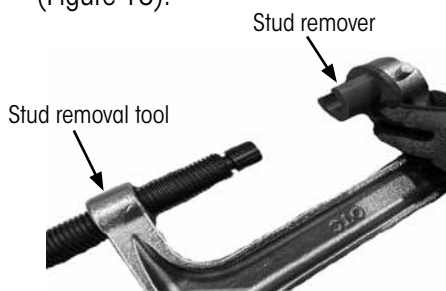

Figure 18: Stud removal tool
2. To remove a stud use a stud remover Figure 17 and stud removal tool Figure 18.
3. Insert Stud Remover into Stud Removal Tool Figure 18.
**NOTE:** Depending on the opening size in the Stud Removal Tool the Stud Remover will rest against its small or large shoulder when inserted (Figure 18).